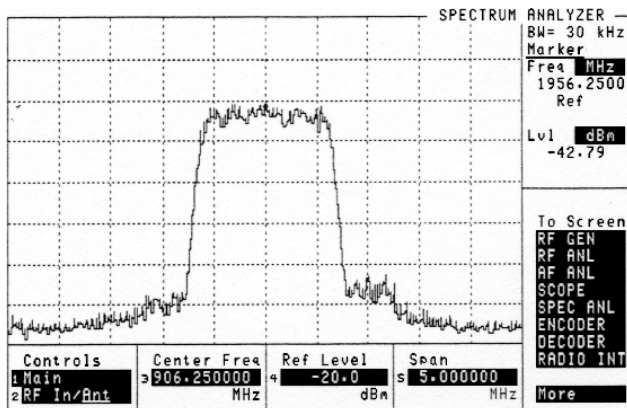

Figure 17. The SPECTRUM ANALYZER Screen on the Agilent 8921A Test Set
It is important to note here that the spectrum analyzer measures the power level within the resolution bandwidth. To determine the power in the total bandwidth of the signal (e.g. 1.23 MHz in CDMA) the difference between the resolution bandwidth of the spectrum analyzer and the bandwidth of the signal should be taken into account. For example, in Figure 17, the resolution bandwidth is 30 kHz and the displayed power value is -42.79 dBm. The total power in the CDMA signal can be calculated as follows:
2. Press the **Spec Anl** key on the front panel of the E6380A (if using the 8921A, select **SPEC ANL** from the **To Screen** menu). The SPECTRUM ANALYZER screen appears (see Figure 17).
The spectrum analyzer should display the spectrum of the RF signal. If the RF signal is a CDMA signal, then the spectrum analyzer display should be similar to the one in Figure 17.